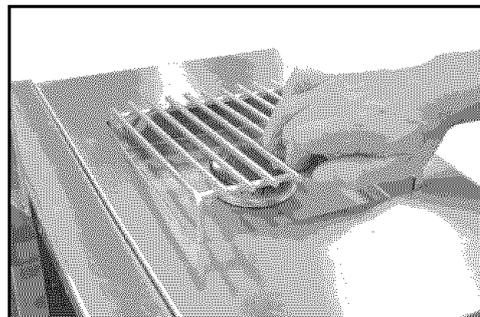

Fig. 12
3. Install grate over burner. (See Fig. 12)